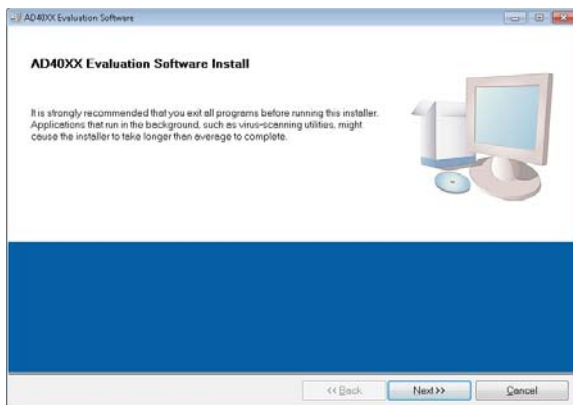

Figure 3. AD4020 Reference Design Software Installation Window
3. The AD4020 reference design software installation window opens, as shown in Figure 3.